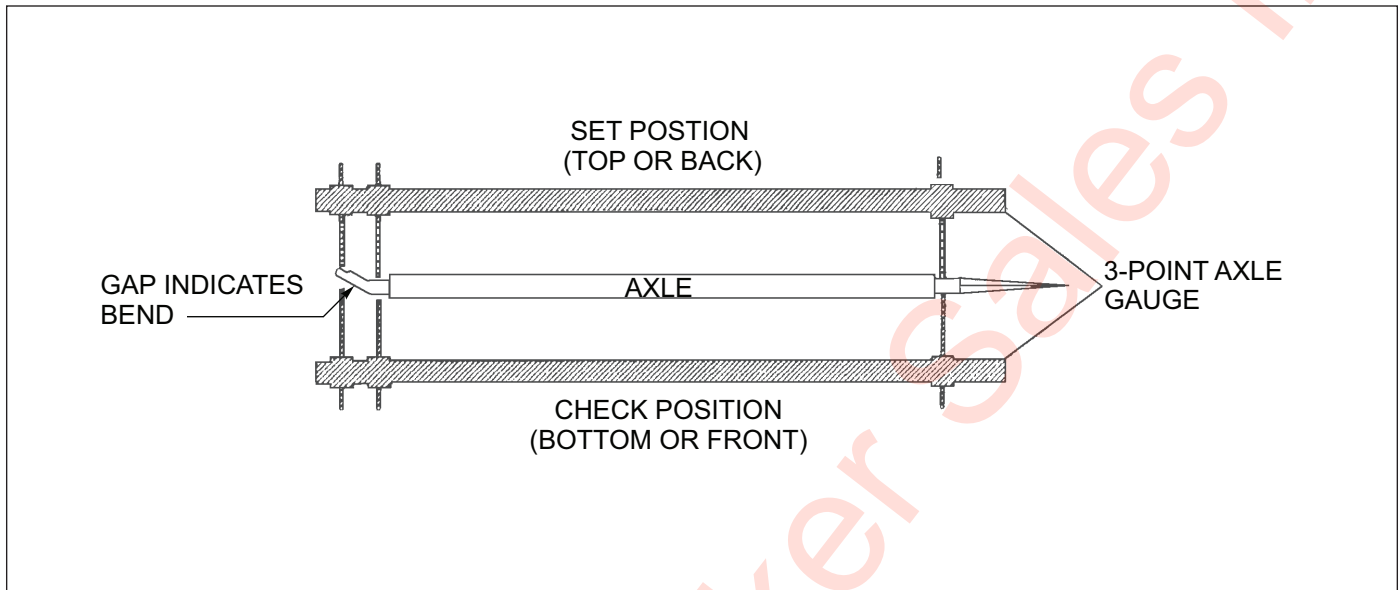

Figure 5-12: Checking Axle Straightness
2. Place a 3-point axle gauge against the front side of the axle, and adjust each axle gauge point to the axle. (Double point end against the inner and outer wheel bearing surfaces of the spindle being checked and the other point on the inner bearing surface on the other spindle). *See Figure 5-12.*
3. Move the axle gauge and place against the back side of the axle. If either of the points of double point end fails to touch the axle surface, a bent spindle is evident. A point gap of 0.015 inch (.381 mm) or more is considered excessive tire "toe" and the axle must be replaced **See Figure 5-12**.
4. Follow the same procedures as in Steps 2 and 3, except place the axle gauge above and below the axle. If gauge point gap is found, the axle has positive or negative camber. The trailer axle has no camber from the factory. If it is found to have positive or negative camber, axle replacement is necessary. **See Figure 5-12** for examples of camber.